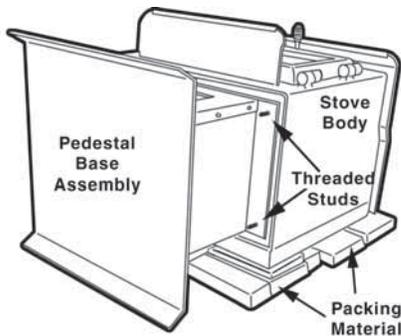

Figure 7 – Attach Pedestal to Stove Body
8. Align four (4) corner mounting studs with holes in pedestal top (Figure 7). Secure with four (4) hex nuts.